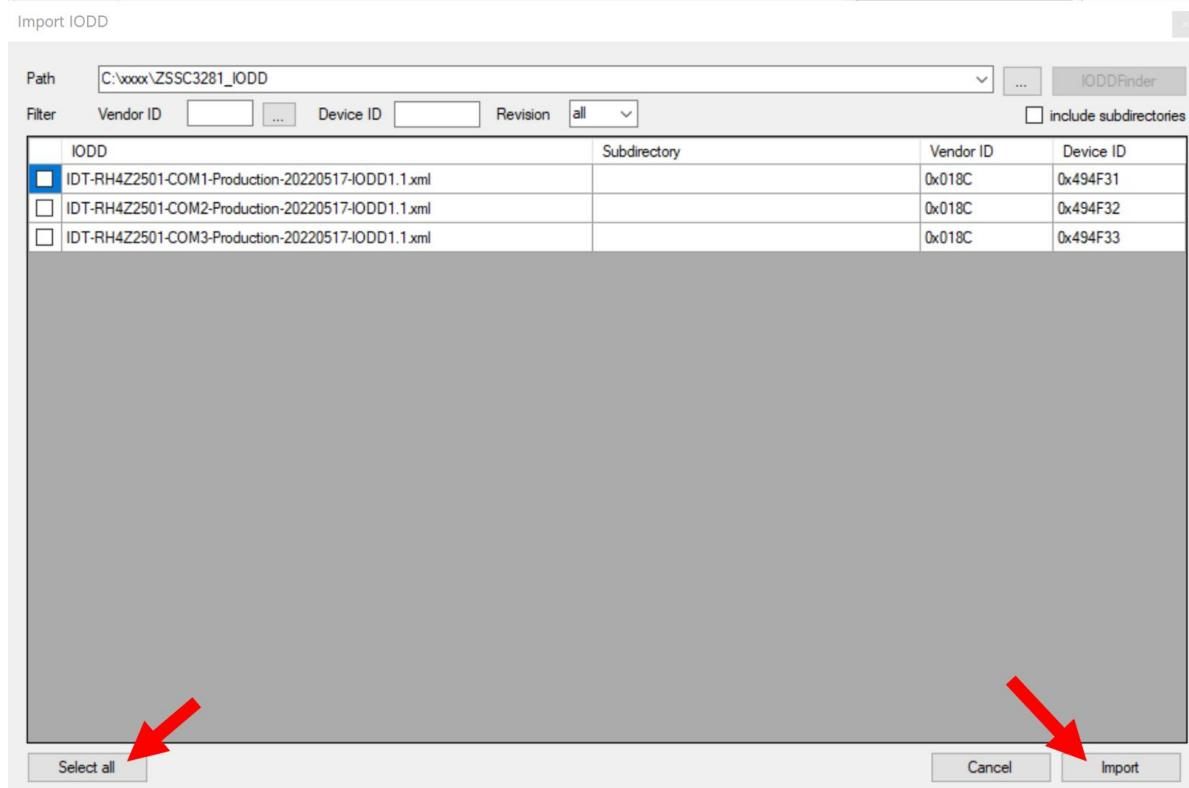

Figure 2. Importing IODD Files into TMG IO-Link device tool
- c. Select all IODD files by clicking on ‘Select all’ and ‘Import’ see Figure 2.